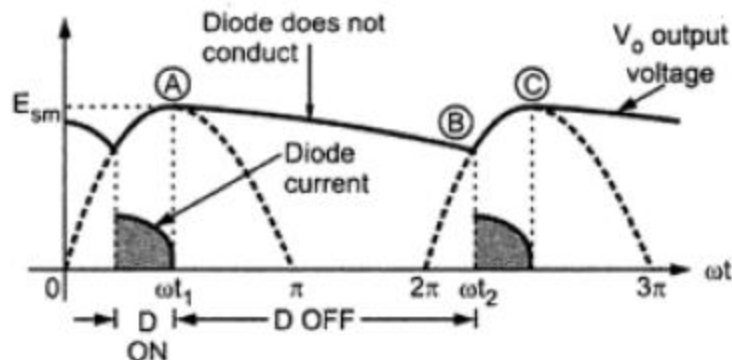

Fig. 1.38 Diode conducts only for part of positive cycle
- This is shown in the fig. 1.38.